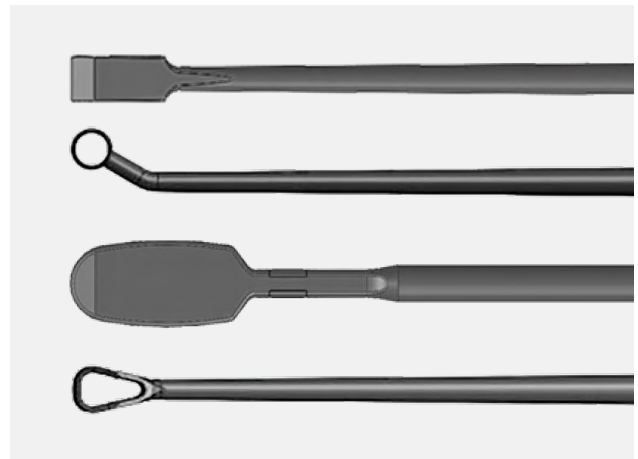

Figure 3
- Prepare the endplates following preferred technique. The MIS Fusion Instrument Set (Figure 3) offers various instruments to aid with endplate preparation. Rotating cutters should be used to safely remove as much of the lateral disc as possible. Straight and angled curettes and rasps are used to finish removing the cartilaginous endplates and perforate the bony endplates to expose bleeding bone. Instruments should be moved up and down in a repetitive fashion and angled obliquely toward the midline to prepare as much endplate as possible. For a bilateral approach, repeat on the contralateral side.